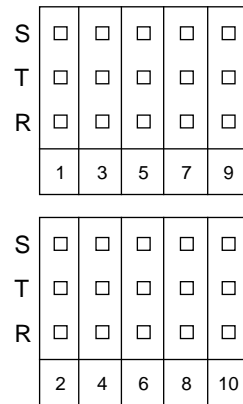
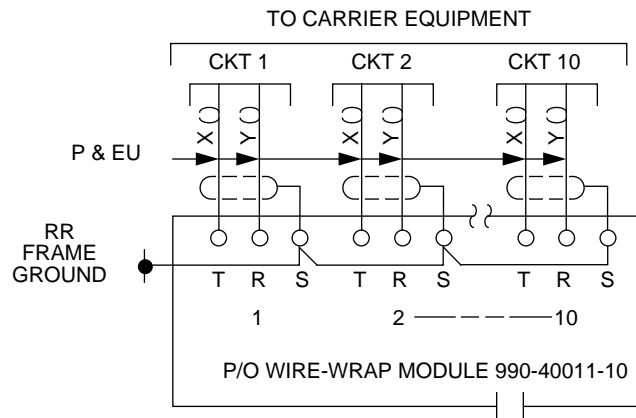
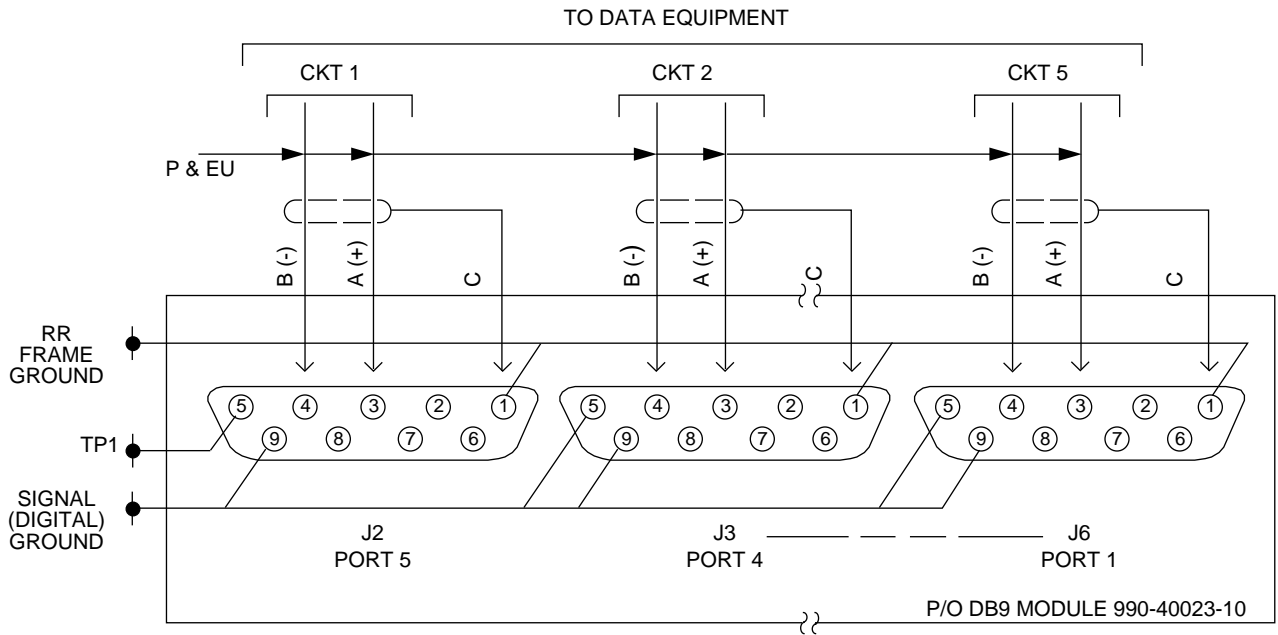

Figure 22. Wire-wrap Pins (on Output Module)
Figure 23. Wire-wrap Module (For TOCA/TOTA/TOLA Cards)
Figure 24. DB9 Module (RS-422) (For TOLA Card)
3. If connecting to a wire-wrap output module, follow local company practices, and using 22 or 24 AWG tinned solid copper, shielded twisted pair cable, prepare cable ends for wire-wrapping. Connect to the wire-wrap output modules using Figure 22 and Figure 23 for reference. Ensure that no bare wire ends are exposed, and no wires are nicked. Table X lists the output pins when using the wire-wrap connector module. Table Z lists the output pins when using the DB9 connector module. Refer also to Figures 24 through 26.